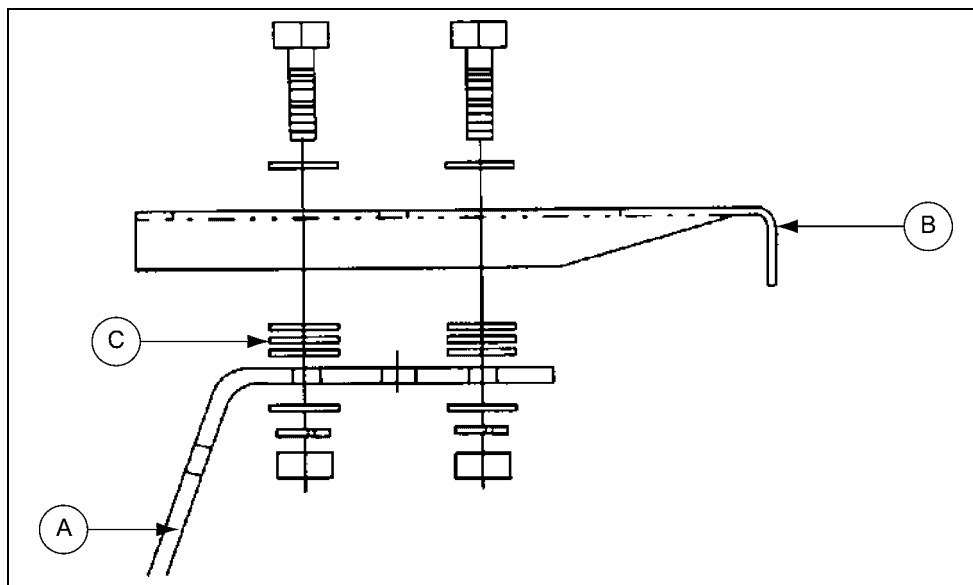

Figure 4E
5. If required, add spacer washers (C) between hanger brackets (A) and hanger extensions (B) to level unit. *(See Figure 4E.)*